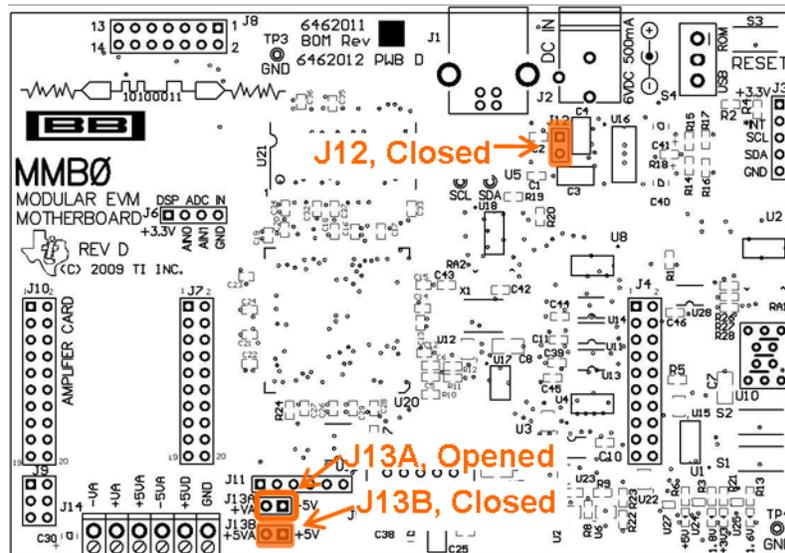

Figure 6. MMB0 Jumper Locations
- Step 2. Set the three jumpers on the MMB0 REV D as shown in Figure 6. Below Figure 6, there is a check list that explains the functionality of each jumper.